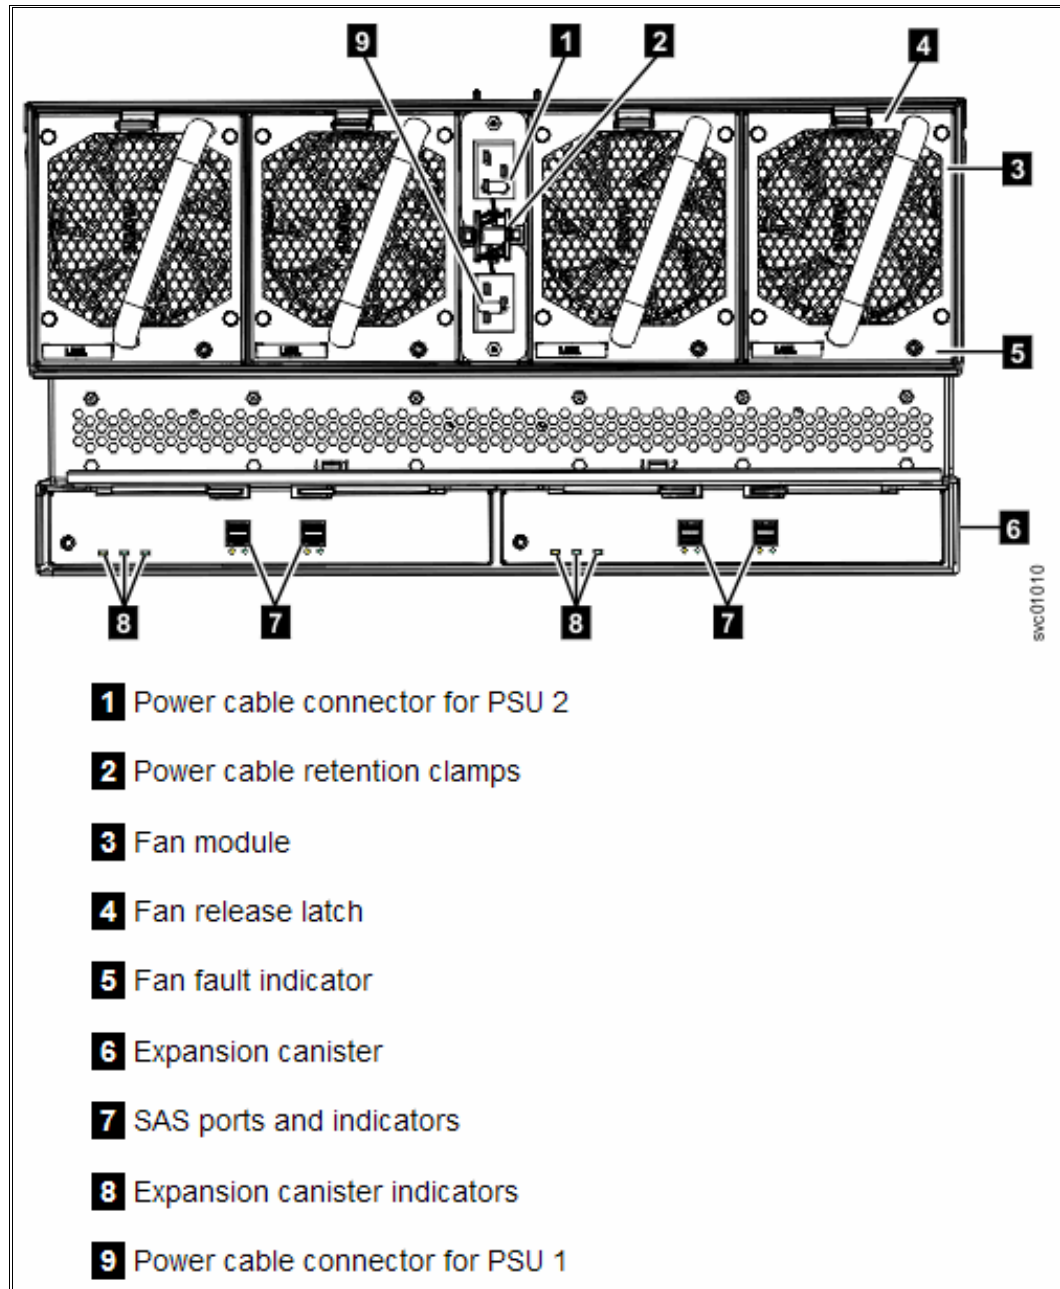

Figure 6-42 Model A9F expansion enclosure rear view
- a. On the back of the expansion enclosure, all four fans and the expansion canister indicators (3 and 3 in Figure 6-42 on page 198) become active when the power is connected.